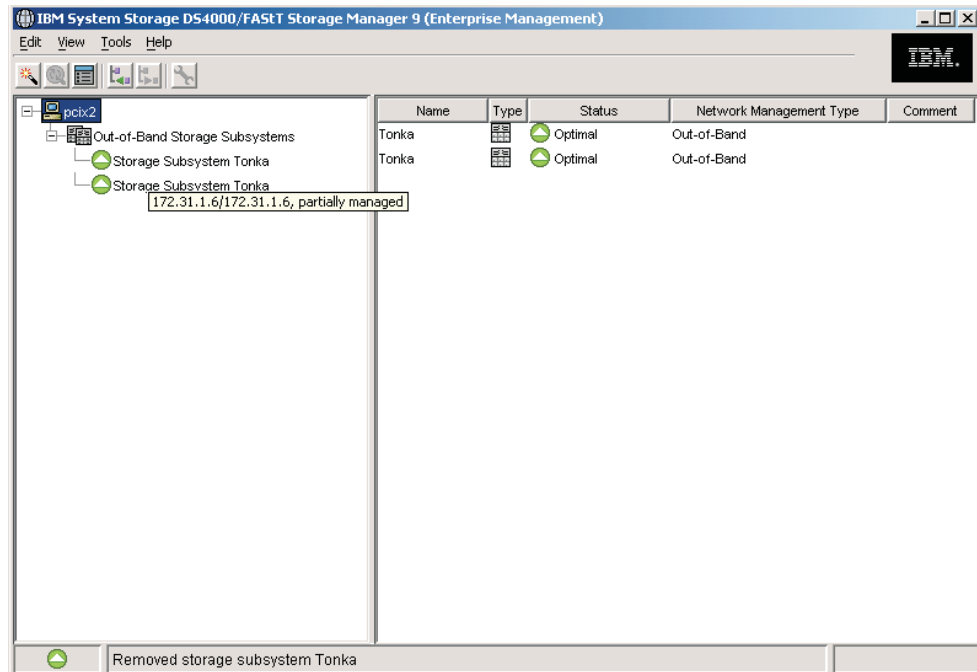

Figure 50. Dual entries appear in the Directly-Managed Storage Subsystem tree
- If Controller A is added as a separate entry in the Enterprise Management window as shown in Figure 50 on page 108, perform the following steps: